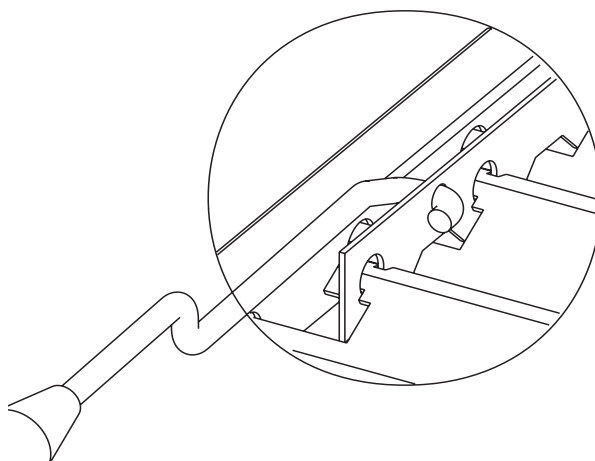

Figure 4
10. Insert hook on either 7-1/2" or 9" actuator rod into 9/32" hole in shutter linkage on left side of smoker shutter. The hook is inserted from the outside to the inside on linkage bar of smoker shutter. Refer to Figure 4.